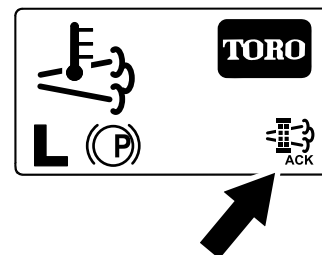

Figure 58
8. The InfoCenter displays the home screen and the regeneration acknowledge icon (Figure 58) appears in the lower right corner of the screen as the regeneration processes.